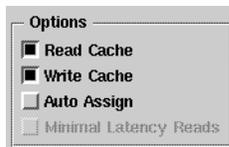

Figure 2-15 Options Display: Auto Assign Unselected
10. Make sure Auto Assign in the Options section of the Bind LUNs dialog is not selected (the default), as shown in Figure 2-15. For more information on auto assign, see page 47.